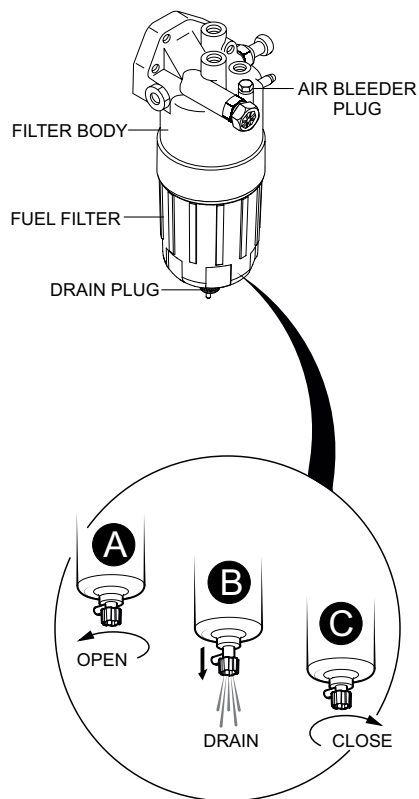

Figure 58. Draining Fuel Filter
Inspect the fuel filter **daily**. If the fuel filter (Figure 58) has collected a significant amount of water and sediment at the bottom of the cup, it should be drained off immediately.
1. Loosen the air bleeder plug (Figure 58) on the fuel filter body.
2. To discharge the fuel inside the fuel filter **OPEN** the drain valve on the fuel filter by turning the knob **counterclockwise (A)** approximately 3-1/2 turns until the valve drops down 1-inch (25.4 mm) and draining occurs(B).